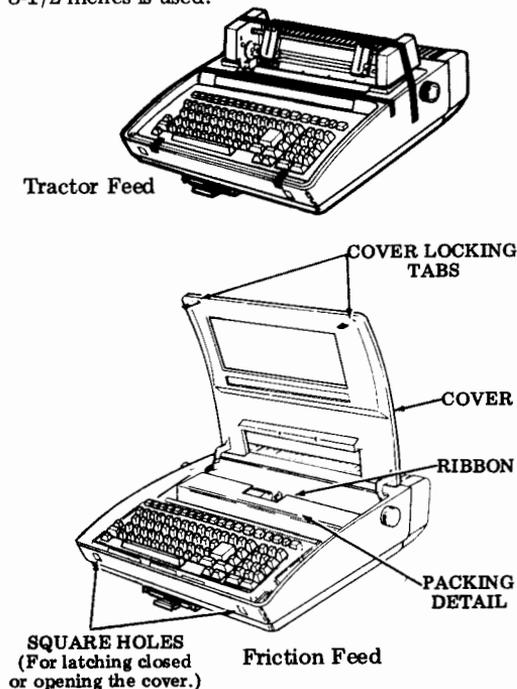

Fig. 1—Packing Detail
3.04 Unpack the carton referring to instructions on the container. Remove tape securing the cover and paper separator to the housing (Fig.1). If tractor feed, remove tape from tractor mechanism and roller bail.
3.05 Depress the cover locking tabs on the lower front of the cabinet and lift the cover. Remove the packing detail securing the print head and the ribbon in place (Fig. 1).